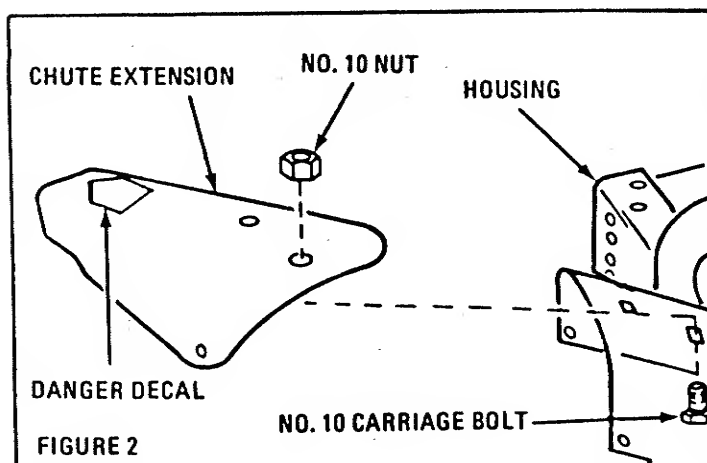

FIGURE 2
CHUTE EXTENSION INSTALLATION (See Figure 2)
- b. Check control cable from bail down to engine. If cable is not moving where it enters the engine when the bail is operated, check for breakage or misplacement of the upper end of cable. Eye on end of cable should be nested in the first bend in the bail (See figure 2).